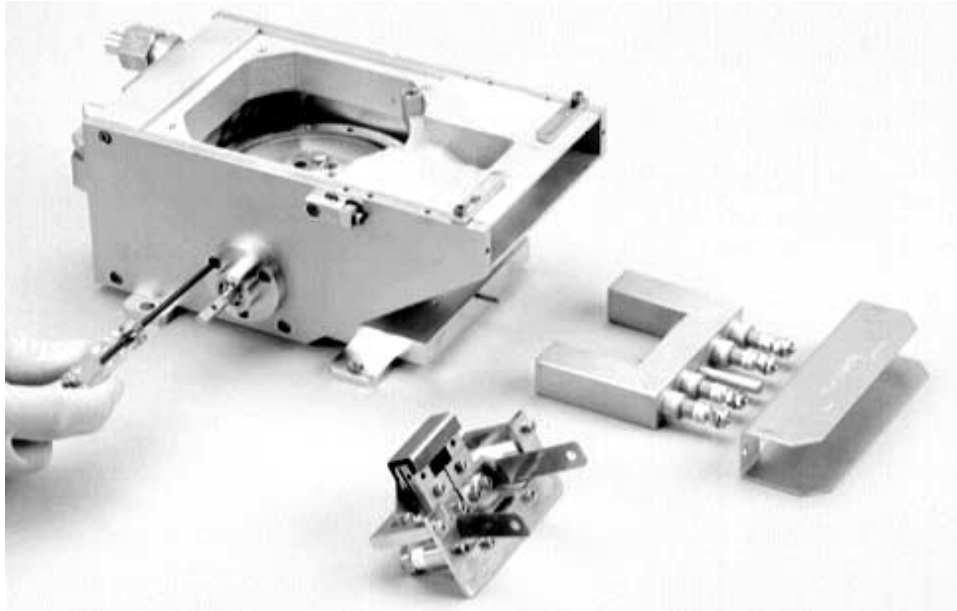

Figure 5-8. Removing the side-drive assembly
Step 8: Remove the screws that secure the side-drive assembly to the left- or right-hand pole piece, as the case may be (see Figure 5-8).